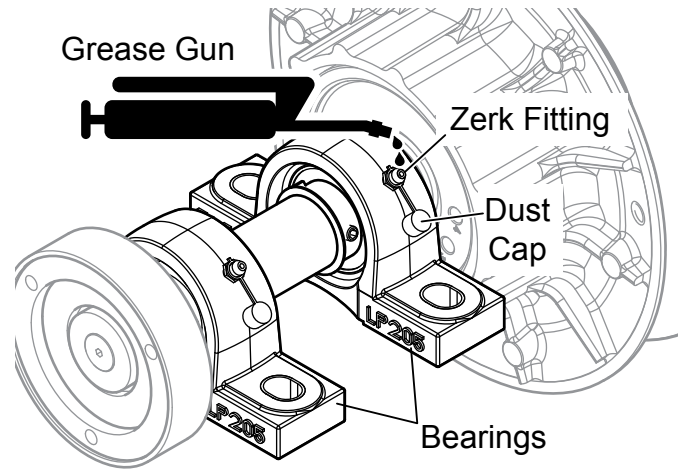

Figure 9. Lubricate Bearings
1. Remove dust caps located on top of new cross shaft bearings (Figure 9).